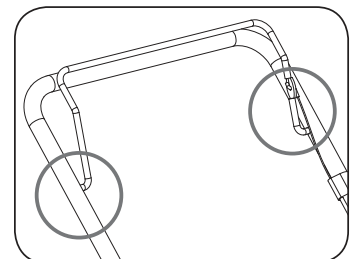

Figure 12
1. Lubricate pivot points on the blade and drive controls at least once a season with light oil. These controls must operate freely in both directions. (See **Figure 12**)